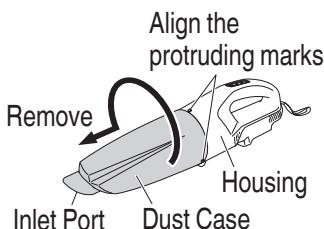

Fig. 6
(1) Remove the dust case (Fig. 6)